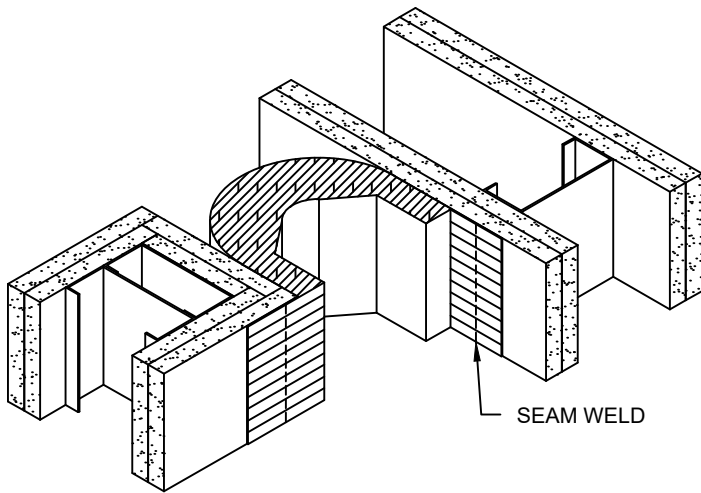
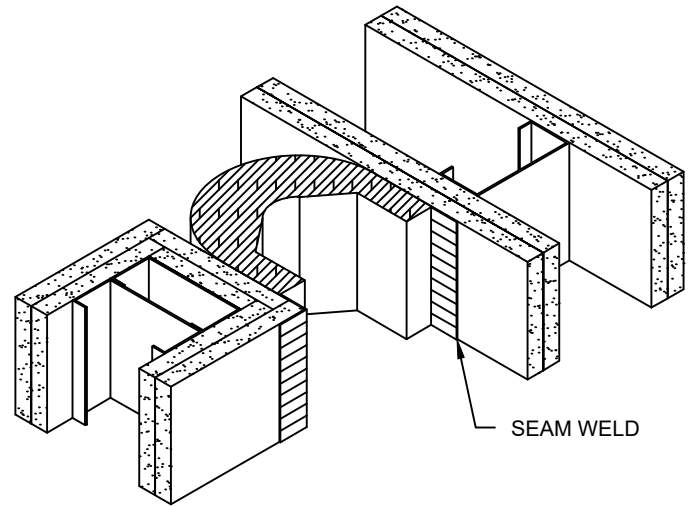

Fig. B3
Fig. C3
After completing material preparation described on page 2 and as shown in Fig. A, place the fire barrier in the expansion joint. The foil flanges can be folded along the seam weld line onto the exposed face of the wall. The foil flange can be run out the wall on the other side of the joint (See Fig. B3). With the Low Profile (LP) galvanized flange configuration on the wall side, the foil flange can be folded over itself before the galvanized flange is fastened into place (See Fig. C3).